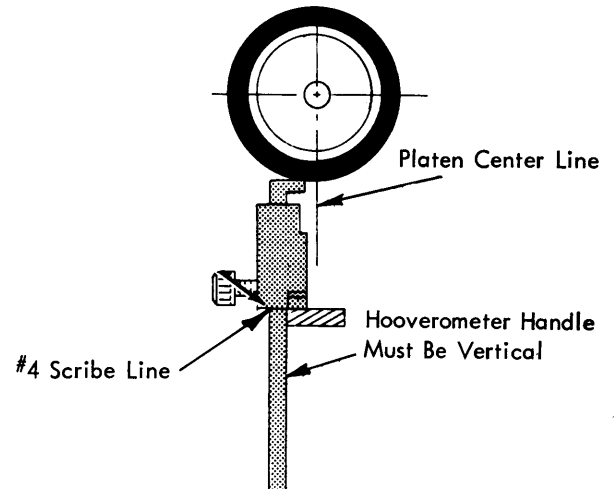

FIGURE 71. Platen Height Adjustment
- a. Platen Height - With the head of the Hooverometer set at the #4 scribe line, the platen should just touch the base of the handle when the head is resting on the escapement rack (Fig. 71).